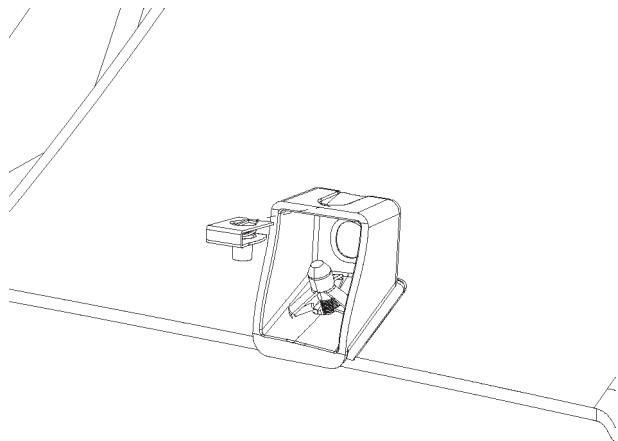

FIGURE 16
26. Attach U nut (from Step 11) to 4 middle brackets. Put aside. Refer to figure 16.